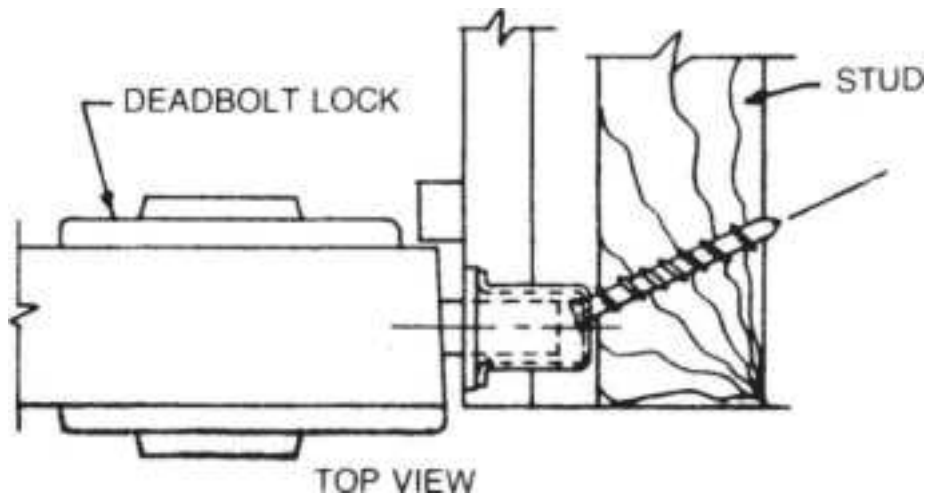

**Figure 13.52** Ensure the screws go into the frame stud for maximum holding power. (*M.A.G. Engineering and Mfg., Inc .*)
9. Within the strike box, drill two  $\frac{1}{8}$ -inch-diameter pilot holes on approximately a  $25^\circ$  angle toward the center of the jamb. This will provide for maximum holding power when the two screws are attached to the stud (Fig. 13.52 ).